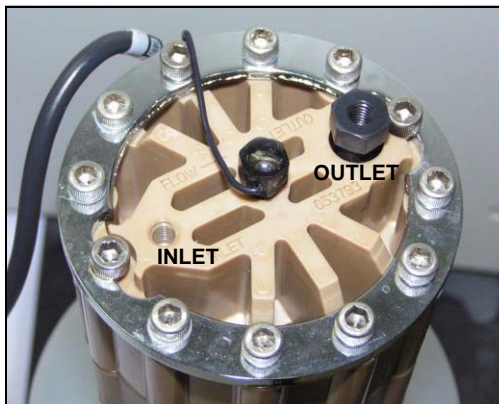

Figure 43. EluGen Cartridge Inlet and Outlet Ports
1. Orient the EluGen cartridge with the fittings facing up and remove the plugs from the EluGen cartridge **INLET** and **OUTLET** ports (see Figure 43).